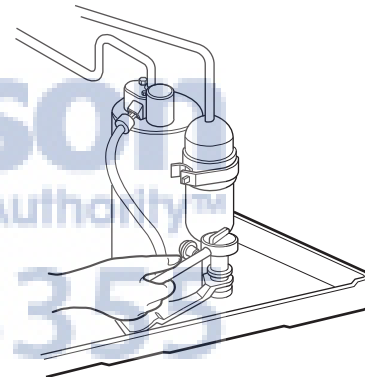

FIG. 11
5. Remove the 3 nuts and the 3 washers which fasten the compressor. (See Fig. 11)